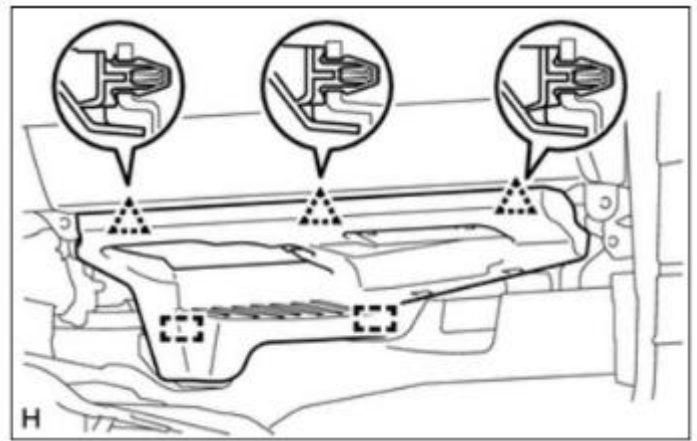

Figure 16
22. Remove the Passenger Side No. 2 Instrument Panel Under Cover Sub-assembly (Figure 16).